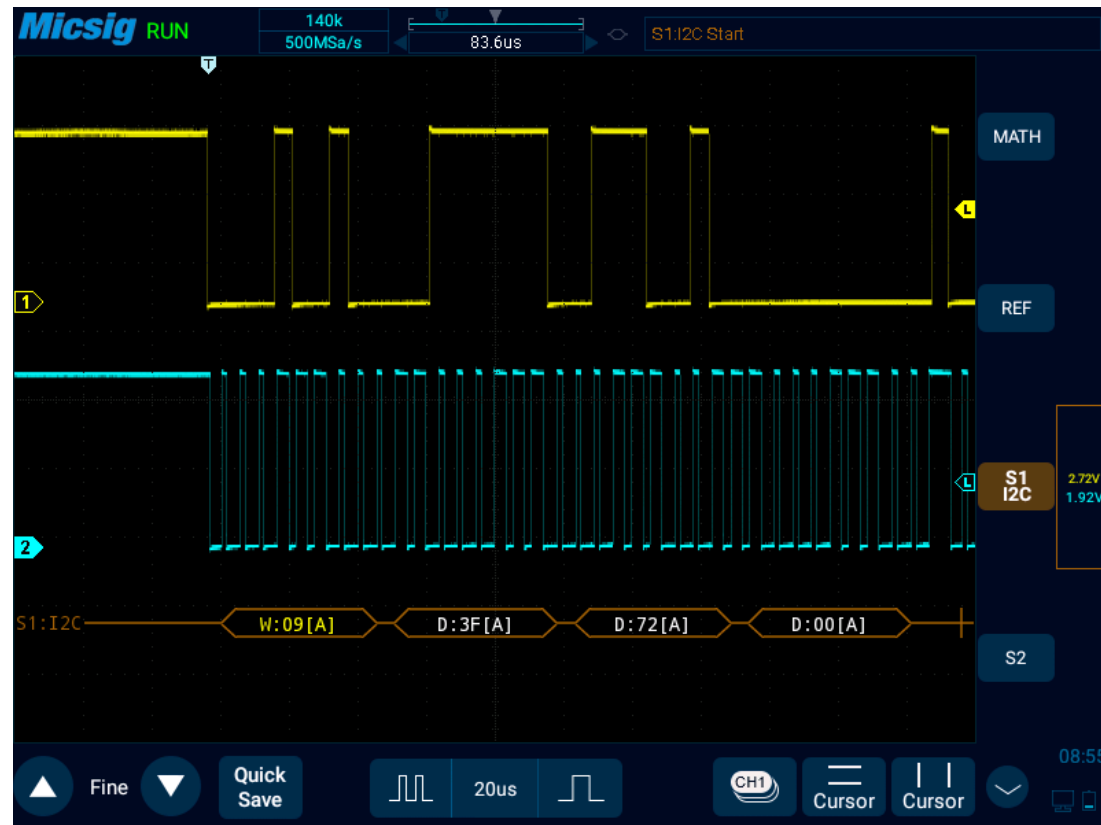

Figure 12-24 I2C Graphic Interface
- (1) Tap S1 to open the decode channel, and click S1 again to open the bus configuration menu;
- (2) Select the bus type as “I2C”, open the bus setting menu, and select the clock SCL as Ch2 channel;
- (3) Open the trigger mode configuration menu and click “Start Condition” on the touch screen.
- (4) Set the threshold level of two channels according to signal amplitude; I2C trigger graphic interface is shown in Figure 12-24: